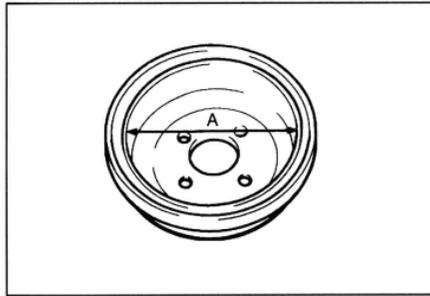

Fig. 16-24
(1) Remove brake drum
(2) Measure brake drum inner diameter at 2 place or more(see Fig. 16-24)